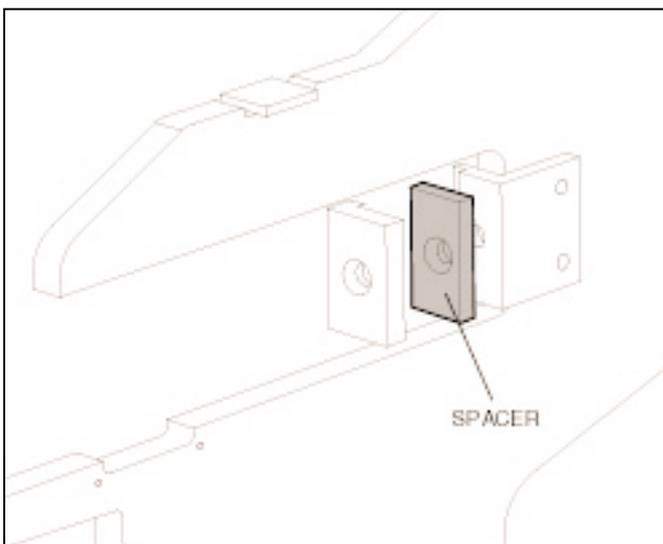

Figure 19.14 MOVE MOLD LOCK ARM BACK.
19.2.5 For 18.047" M.B.C. molds, remove mold throat liner and reinstall with 5" spacer #448809. Use 7 1/2" flat head screw #088512. For 20.047" M.B.C. molds, remove mold throat liner and reinstall with 4" spacer #448808. use 6 1/2" flat head screw #088513. See figure 19.14.